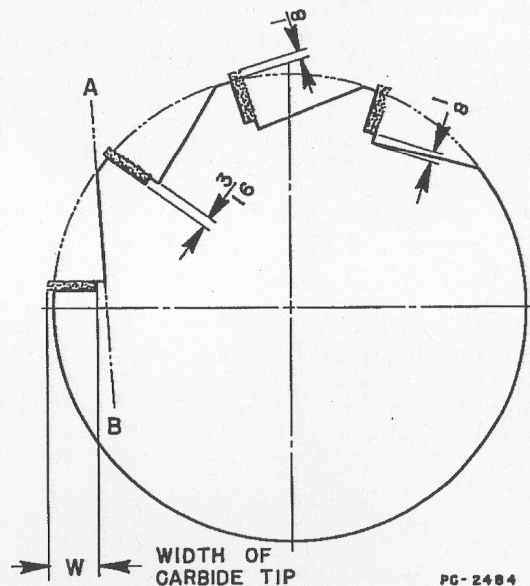

Figure 51
6. Move in the saddle until the face of the rotating cutter contacts the periphery of the cutter body. Move the table to the right to clear the rotating cutter. Measure the width "W" of the carbide tip, (Figure 51) subtract  $\frac{1}{8}$ " and move the saddle in this amount. If the width of the carbide tip is considerably wide it may be necessary to take several cuts before the desired depth is reached.
8. After the last seat has been milled, lower the knee  $\frac{3}{16}$ " (tooth thickness) and move the saddle in  $\frac{1}{8}$ " (Figure 51). This is done to provide clearance for the grinding wheel when grinding the face of the carbide teeth. Engage the table feed lever and take a cut. Index and repeat this operation on the remaining seats.
9. The chip clearance or gullet is milled next (Figure 51). Scribe a line on the face of the cutter body from "A" to "B" (Figure 51). Position cutter body so line is square with top of table. Start spindle and mill off all the metal outside of this line. Index and repeat this operation. Remove the cutter (not the cutter body).